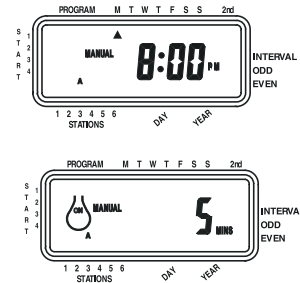

Figure 14: Manual Watering Station 3 for Five Minutes
- To skip a station, press next until the cursor is blinking over the station number you wish to program. Example: To set station 3 for five minutes, press the manual key; then press the next key five times to select the manual operation mode and advance to watering for station 3; using the + or - key, set the manual watering duration to five minutes; then press enter [See Figure 14].